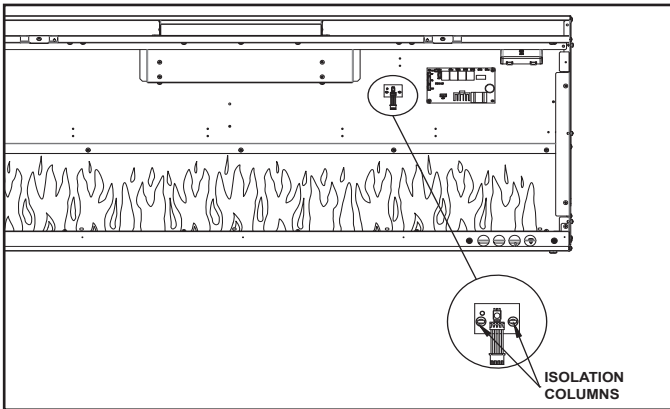

Figure 15 Receiver Board Location
1. Locate the Receiver Board in the upper right side of appliance. See Figure 15.